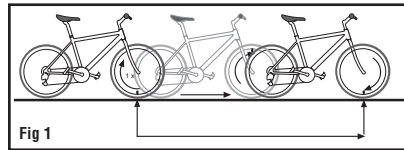

Fig 1
3. Roll-out Test: See Figure 1.